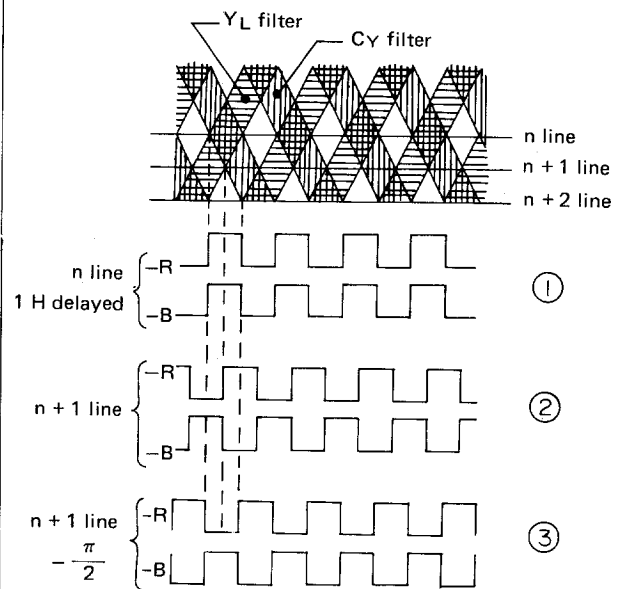
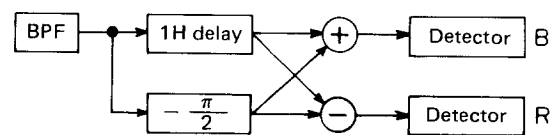

Figure 2.
Figure 3.
The stripe filter inside the pickup tube are arranged as shown in Fig. 2. The cyan (CY) filter and yellow (YL) filter are so positioned as to have the same angle with respect to the scanning lines, and so the space frequencies caused by them are the same from each other. Supposing that incoming light is transparent in colour, we will describe how it is separated into two colours red and blue by the CY and YL filters, looking at Fig. 2.
In the  $n$  line in Fig. 2, the CY and YL filters are on the same line overlapping on each other, so that  $-R$  and  $-B$  signals will be the same in their phase: in the  $n + 1$  line,  $-R$  signal is  $\pi/2$  behind that caused in the  $n$  line while  $-R$  signal is  $\pi/2$  ahead that caused in the  $n$  line: the same holds true of those generating in both  $n + 1$  and  $n + 2$  lines. This reflection by the filters is used to fit into the colour separator circuit of which the block diagram is shown in Fig. 3, which is intended to have the incoming light separated into red and blue signals, delivering them to the succeeding circuit.